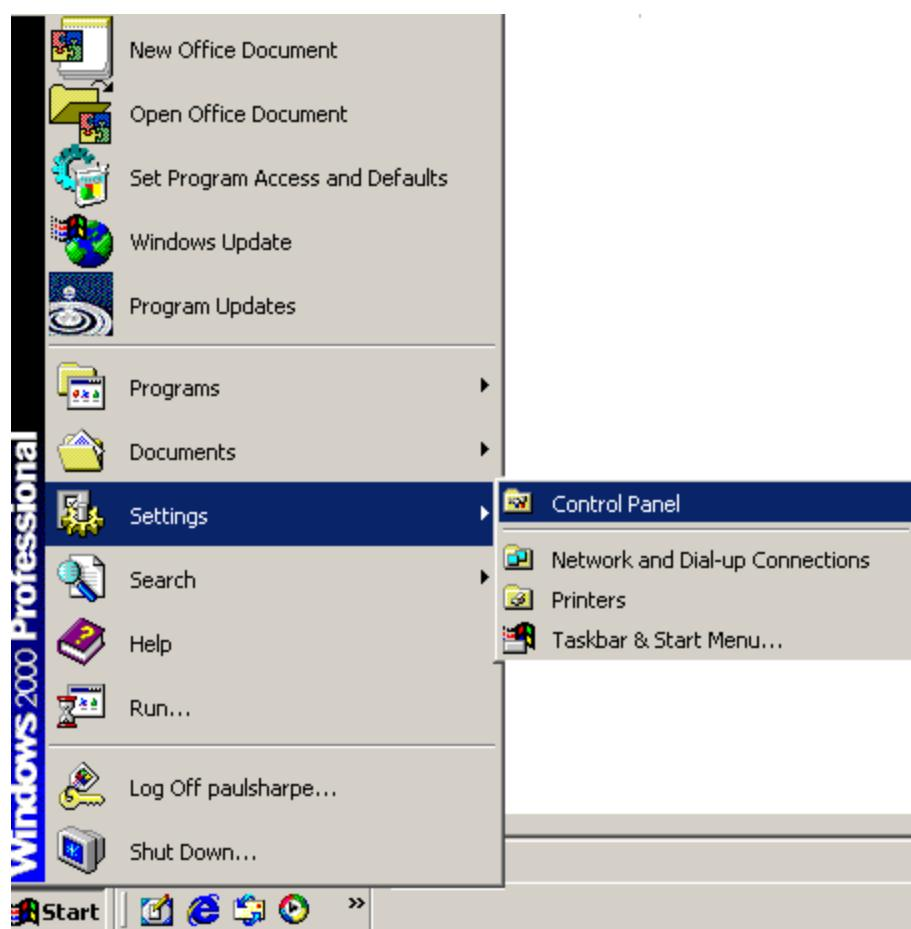

Figure 7-25: Access Windows Control Panel
Step 12: Open Windows Control Panel (Figure 7-25).